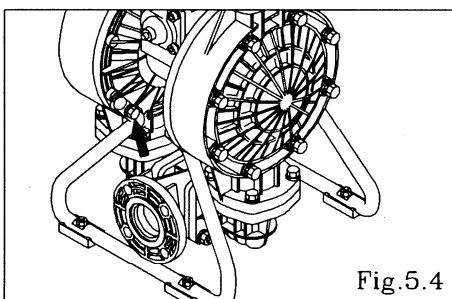

Fig.5.4
- Remove the 8 (4 on the NDP-40) retainer bolts from the stand body, and remove the stand body. [Fig.5.4]